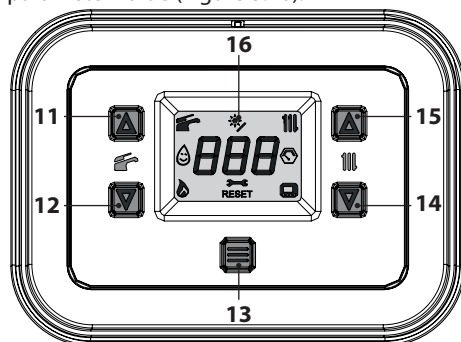
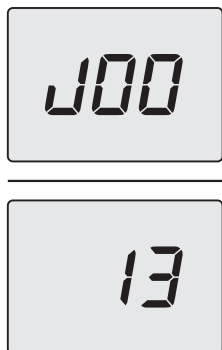

Figure 3.9
Figure 3.10
To access the INFO mode, press keys 14 and 15 (Figure 3.9) together until the index "**J00**" is shown on the display in alteration with the parameter value (Figure 3.10).
- press and hold the 12 and 14 keys simultaneously for 5 seconds (Figure 3.9) (one level up).
The flue gas probe and 17 are triggered when the flue gas temperature exceeds 110°C, activating the boiler safety lockout, shutting it off. To reset normal boiler operation simply press the button 13 (Figure 3.9).